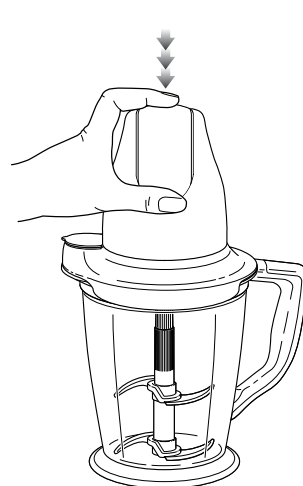

Fig. 5
- 9 To start the appliance, plug the power cord into the electrical outlet, securely hold the Master Pod while operating and press on the on/off pulse button located on the top of the Master Pod. **(fig. 5)**